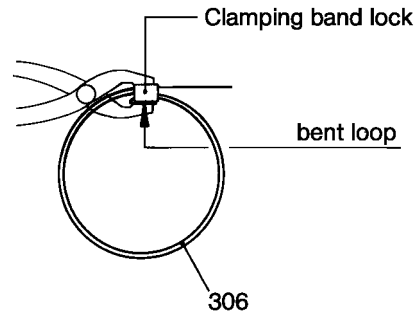

Figure 8: Press clamping band loop against clamping band lock.
- Mount cover sleeve (308) with screw driver, lift top with screw driver, run spray pipe of the oil can under the sleeve and fill the space in the joint with ALLWEILER special joint oil type B or oil ET 15 10 ISO 460 of Tribol Lubricants GmbH, Mönchengladbach, Germany. Lubricant quantities see table, Section 7.1.2.6 above. For the use of the pumps for foodstuffs with ALLWEILER special joint oil Type BL or oil 1810/460 of Messrs. Tribol Lubricants GmbH, Mönchengladbach, Germany.
- Check whether bent loop of the clamping bands (306) rests against the clamping band lock. If not, press against by means of commercial flat pliers (please refer to Figure 8 below).